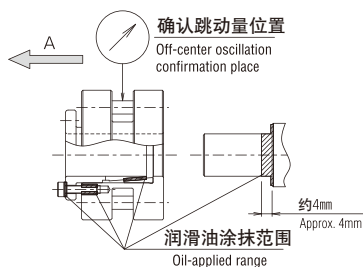
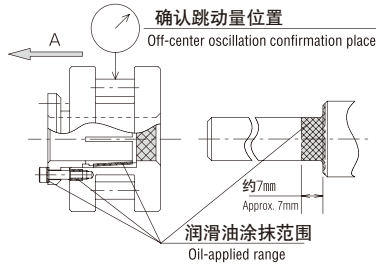

图1 Fig.1
图3 Fig.3
(图1、3、5)
Lightly apply oil or grease to shaft which directly contacts with roller pinion, tapered area of clamping tool, screwed area and head seat of lock bolt (Fig. 1, 3 and 5).
跳动量请按照滚轮滚销部回转时的跳动量来确认。(请参照图1、3、5以及P.56安装精度表)
Confirm off-center oscillation between roller pinion and shaft during operation (Fig. 1, 3 and 5 refer to list of mounting precision P.56).
- 拧紧锁紧螺栓时，滚轮会朝着图1、图3箭头A方向有若干移动。请注意与齿条侧面的干涉（CPA1010B~CPA3212B、CPC3212A、CPS1610A~CPS2510A型为对象）
Since the roller pinion moves slightly in the arrow A direction of Figs. 1 and 3 when the lock bolts are fastened, watch out the roller pinion for the interference with the gear side (for CPA1010B to CPA3212B, CPC3212A, and CPS1610A to CPS2510A types).